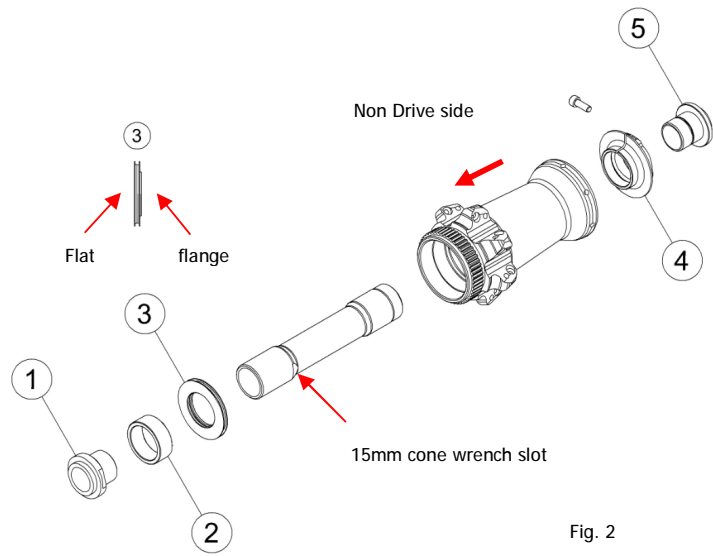

Fig. 2
1. Install TA end cap ① to axle by using 15mm and 17mm cone wrench.
2. Insert ② onto axle.
3. Insert ③ onto axle with flat face toward Spacer ②, flange face to hub. (Fig.2) .
5. Install PRA adjustment collar ④. For adjustment see wheelset installation instruction.
6. Press TA end cap ⑤ onto axle.
7. Tighten the M3 PRA adjust collar set screw in the PRA adjustment collar ④ using a 2.5mm Allen Key.